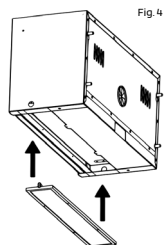

Fig. 4
2. Connect the master panel to the driver and hang it in the opening provided (Fig. 3 and Fig. 4).